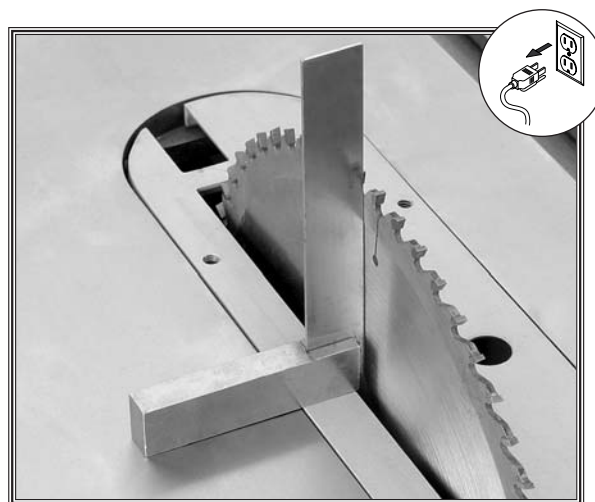

Figure 64. Setting blade to 90°.
3. Place a machinist square flat on the table and up against the blade between teeth as shown in **Figure 64**.